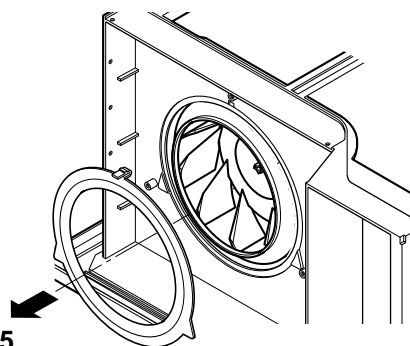

Figure 5
5. Remove the clamp spring which is clamped to the boss of turbo by hand plier. (See Fig. 5)